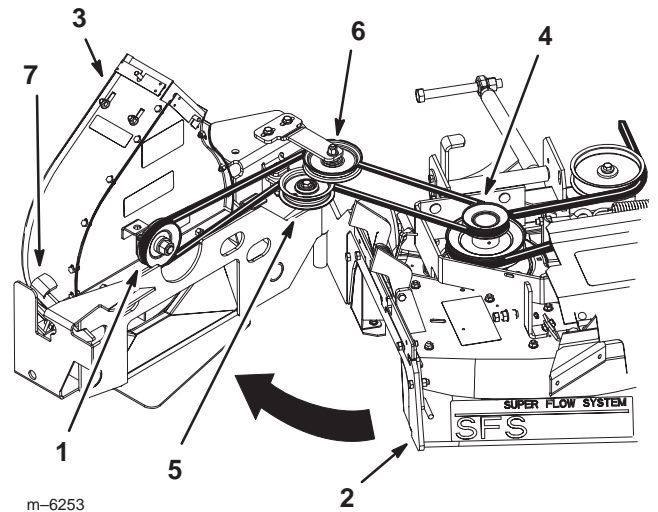

Figure 16
3. Open the blower assembly (Fig. 16).
4. Push down on the front latch (colored red) and open the blower assembly (Fig. 16).
6. Route the bagger belt around the **top pulley of the mower pulley assembly** (Fig. 16).
7. Feed the belt between the idler pulleys (Fig. 16).
8. Route the bagger belt around the **spring-loaded idler pulley** (Fig. 16). The backside of belt will be touching the pulley.
9. Route the bagger belt around the **fixed idler pulley** (Fig. 16).
10. Route the bagger belt around the **blower pulley** (Fig. 16).